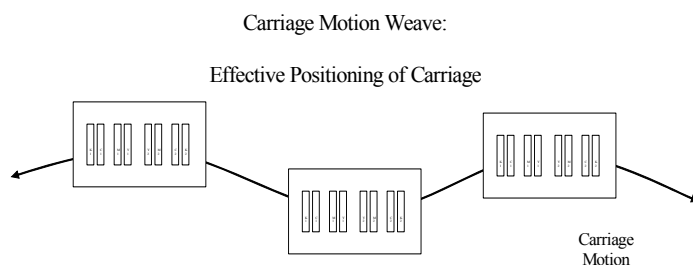

Figure 4: Carriage motion weave
- Carriage weave issues,(figure 4). This is perhaps a less common problem, but one that can result from using a low grade motion system. As the carriage crosses the scan path, it may oscillate in the cross process direction producing drop-on-drop placement errors.